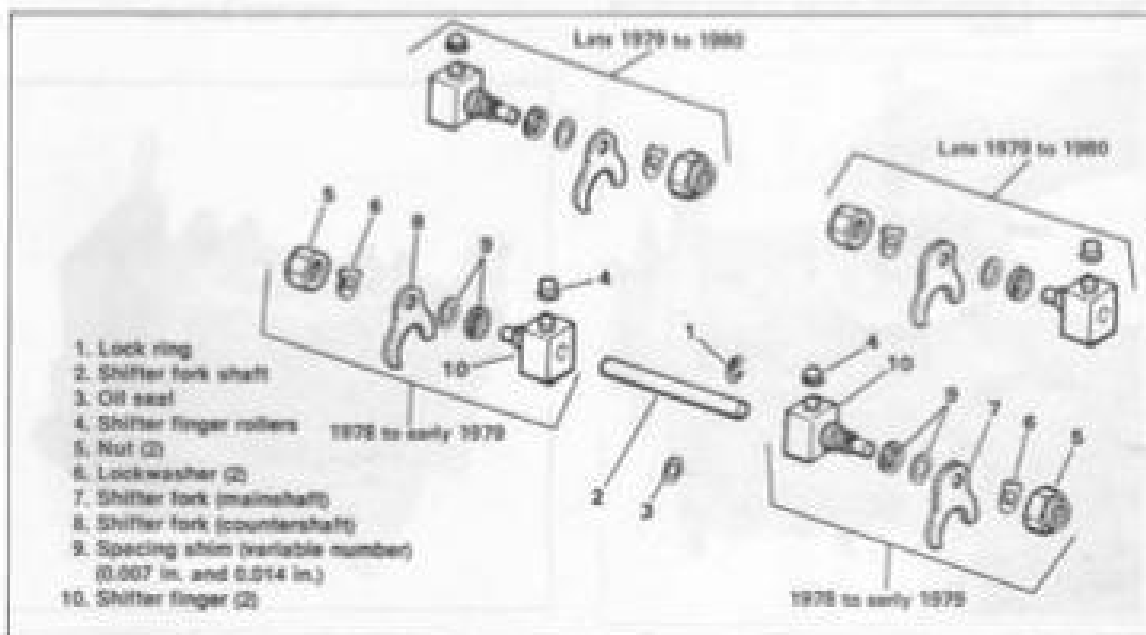

Figure 4-16. Shifter Fork - Exploded View
The disassembly and assembly procedure is the same for early and late style transmissions. However, on late 1979 and later transmissions, the shifter fork assemblies are reversed on the shifter shaft, that is, the side with the nuts (5) face the center of the shaft. See Figure 4-16.
REMOVING SHIFTER FORKS (Figure 4-16)
DISASSEMBLING SHIFTER FORKS (Figure 4-16)